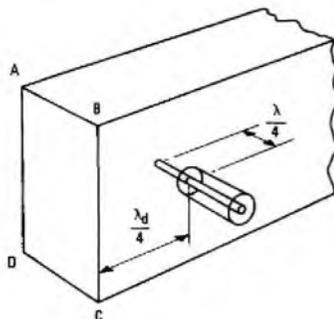

Fig. 1
**Q4** (a) Fig. 1 below shows a rectangular waveguide having a cross-section  $4.8 \times 2.4 \text{ cm}$  and a short-circuit termination at ABCD. The waveguide is energized at 4.69 GHz in the dominant mode.
- (ii) Copy Fig. 1 and indicate clearly, showing the appropriate distance from the termination, the position of a probe for strong excitation at this frequency.
(ii) A probe transition to couple microwave energy into the dominant mode of rectangular waveguide has been added to Fig. 1. The probe functions as a coaxial quarter-wave aerial radiating into the waveguide. The inner conductor of the coaxial line extends approximately a quarter of a free-space wavelength into the waveguide, parallel to the electric field and is centrally placed to couple to the point of maximum field strength within the guide. To improve the match of the probe it may be surrounded by a cylinder of dielectric material. The probe is situated one quarter of a wavelength from the short-circuit termination at ABCD to ensure that energy radiated towards the short-circuit is returned in phase with the energy radiated from the probe in the forward direction.